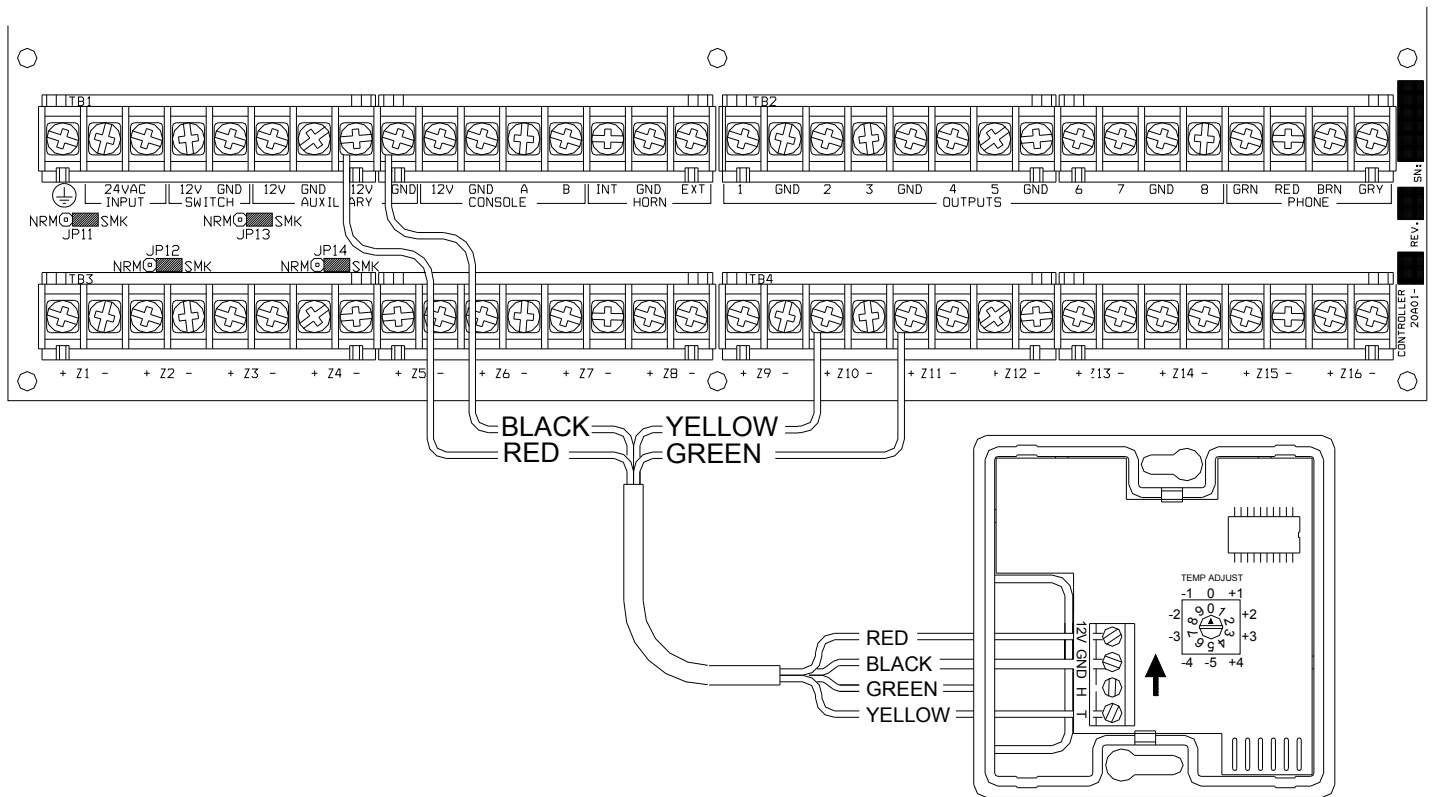

FIGURE 1 – MODEL 31A00-8 CONNECTIONS
2. Mount the Model 31A00-8 using the supplied wall anchors, screws, and mounting bracket (if desired). For optimal temperature and humidity readings, mount it vertically so that the white arrow (silk-screened onto the board) points upward as shown in FIGURE 1. The plastic enclosure must be mounted so that the airflow slots are at the top and bottom. Connect to controller as shown in FIGURE 1.
3. Program the zone type for the temperature output (T) as an “Extended Range” device: ER Outdoor Temperature (Type 85), ER Temperature (Type 86), or Temperature Alarm (Type 87) based on the application.
4. Program the zone type for the humidity output (H) as Humidity (Type 84).